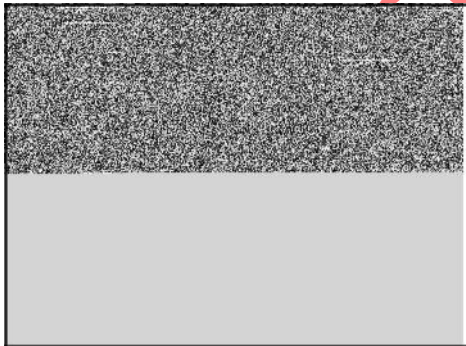

Figure 55
1. Disconnect the wire from the carburetor solenoid (**E**, Figure 55).